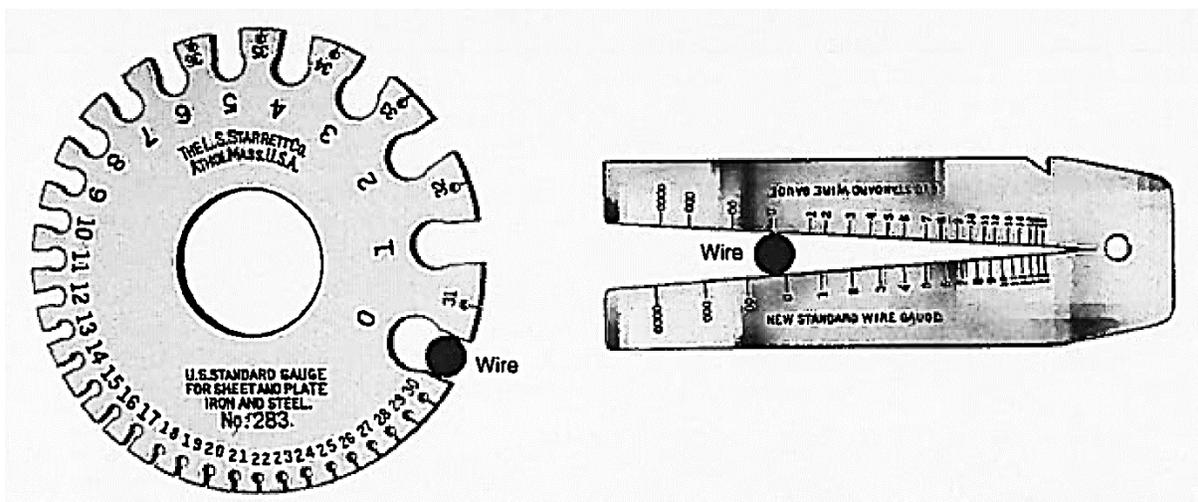

Figure 7.3: Wire Gauges
- 7-27 A common measure of wire diameter is the *gauge number*. The gauge commonly used in the United States is the American wire gauge (abbreviated AWG). Two typical AWG wire gauges are shown in Figure 7.3. The gauge at the left measures wires ranging in diameter from No. 30 (the smallest) to No. 0 (the largest). The gauge at the right measures sizes 15-0000.